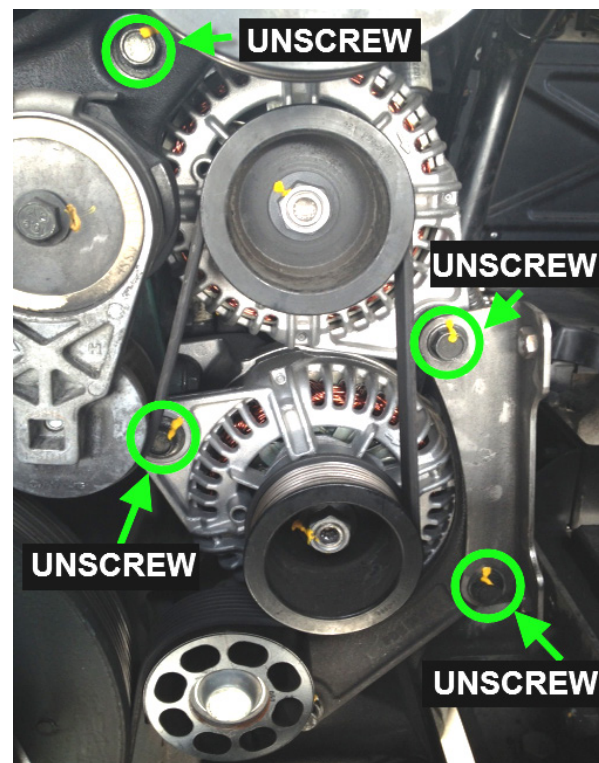

FIGURE 5
7. Remove the existing alternators. To do so, unscrew identified mounting bolts on FIGURE 5 and keep for reuse.